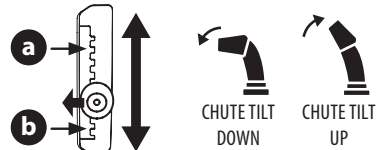

Figure 68
To raise or lower the upper chute, move the lever forward or backward (Figure 68).
- **To Reduce the Distance Snow is Thrown:** Move the lever forward to tilt the upper chute down (Figure 68).
- **To Increase the Distance Snow is Thrown:** Move the lever rearward to tilt the upper chute up (Figure 68).
- **To Reduce the Distance Snow is Thrown:** Disengage lever from the current chute setting. Move the lever forward to tilt the upper chute down to the desired setting (a) (Figure 68).
- **To Increase the Distance Snow is Thrown:** Disengage lever from the current chute setting. Move the lever rearward to tilt the upper chute down to the desired setting (b) (Figure 68).